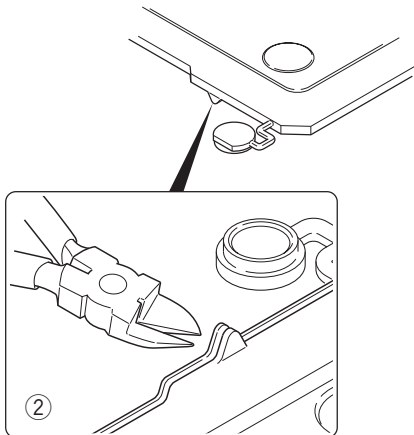

Fig. 9-3
Note : If the GPS receiver is installed, cut the base of the convex tab of the top packing with a pair of nippers, or similar tool. (Fig. 9-3 ②)